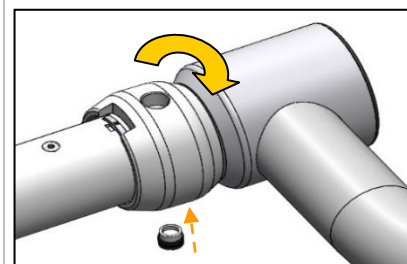

Figure 41
- Refit the brake screw - Gently screw the brake screw in place until it stops and then tighten approximately another 1/8 of a turn but do not over tighten. See Figure 41. **Note: The lamphead should rotate freely - if it does not, adjust the brake screw.**